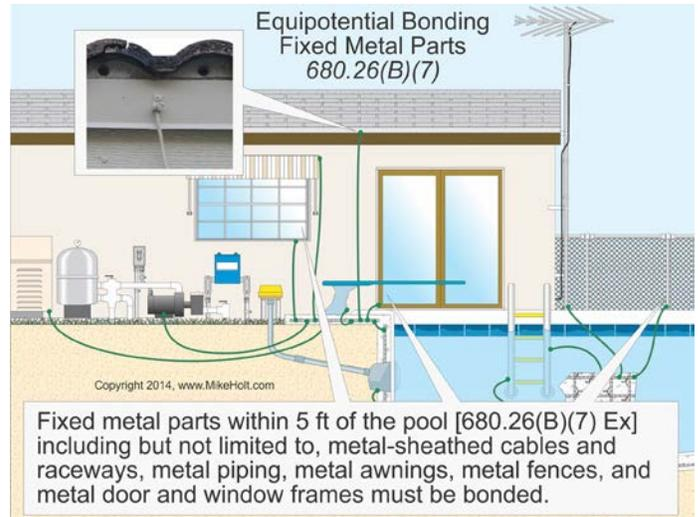

Figure 680-46
(7) Fixed Metal Parts. All fixed metal parts must be bonded to the equipotential grid, including but not limited to, metal-sheathed cables and raceways, metal piping, metal awnings, metal fences, and metal door and window frames. **Figure 680-46**